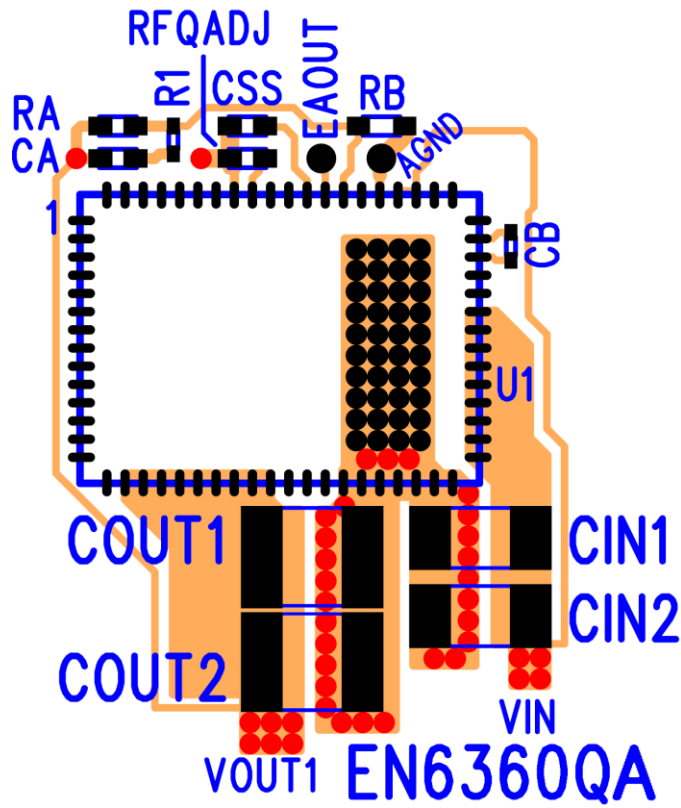

Figure 10: Top Layout with Critical Components Only (Top View)
**Recommendation 6:** AVIN is the power supply for the small-signal control circuits. It should be connected to the input voltage at a quiet point. In Figure 10 this connection is made at the input capacitor.
**Recommendation 7:** The layer 1 metal under the device must not be more than shown in Figure 10. Refer to the section regarding Exposed Metal on Bottom of Package. As with any switch-mode DC-DC converter, try not to run sensitive signal or control lines underneath the converter package on other layers.
**Recommendation 9:** Keep  $R_A$ ,  $C_A$ ,  $R_B$ , and  $R_1$  close to the VFB pin (Refer to Figure 10). The VFB pin is a high-impedance, sensitive node. Keep the trace to this pin as short as possible. Whenever possible, connect  $R_B$  directly to the AGND pin instead of going through the GND plane.